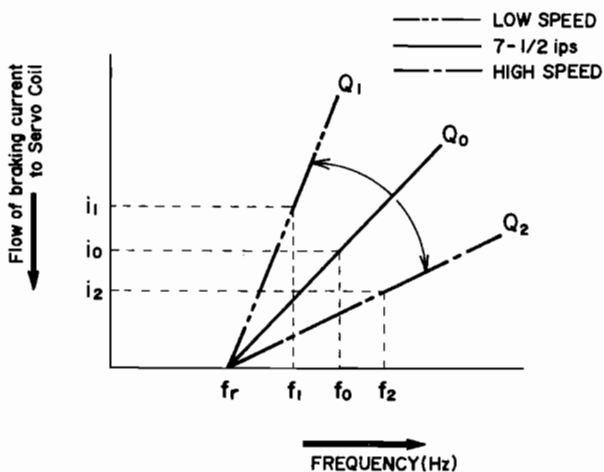

Fig. 33
6. In case of the capstan motor revolutions having reached the speed of  $n_2$ , the detector signal produced at the detector coil surpasses  $f_0$  and advances toward the higher  $f_2$  frequency. (See Figs. 33 & 34). Accordingly, the flow of current to the servo coil increases, and because the electro-magnetic braking supplied to the capstan motor is increased, the capstan motor revolutions become slower, and normal revolutions are regained.
7. In case of the capstan motor revolutions having slowed to  $n_1$ , the detector signal produced at the detector coil drops to lower than  $f_0$  and descends toward the low  $f_1$  frequency (See Figs. 33 & 34). Accordingly, the flow of current to the servo coil decreases, and because the electro-magnetic braking supplied to the capstan motor is decreased, the capstan motor revolutions become higher, and normal revolutions are regained.
As shown in Fig. 33, resonance frequency  $f_r$  (between the arrow mark) is changed by adjusting the dust core of discriminator coil L1 (VI2031SC01). Accordingly,  $f_0$  is also changed between  $f_1$  and  $f_2$ , and the flow of braking current ( $i_0$ ) to the servo coil is also changed between  $i_1$  and  $i_2$ . Consequently, correct tape speed can be attained by using a tape speed measuring tape and a Frequency Counter and adjusting the dust core of coil L1.